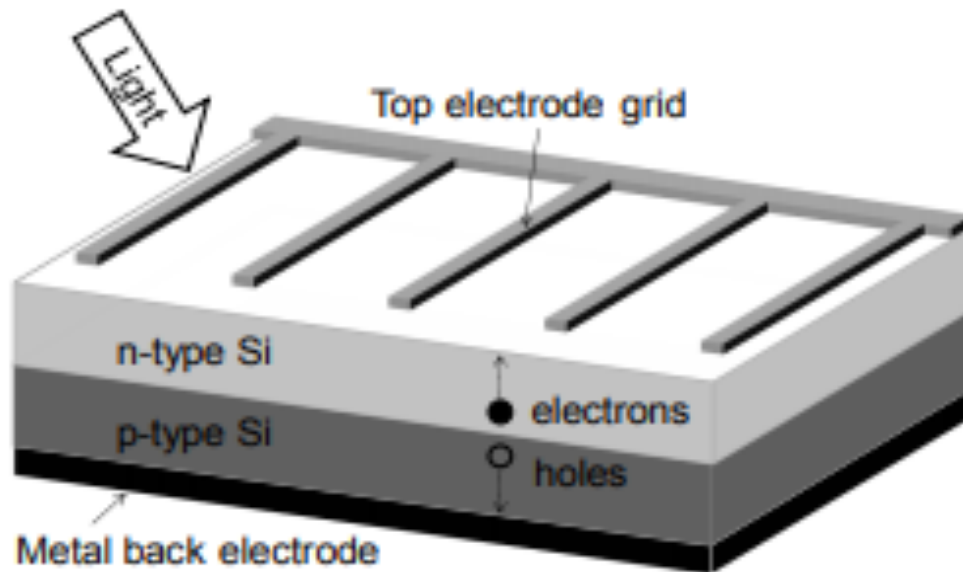

Fig. 1
- Absorbed light creates free electrons and holes, which act as charge carriers and are connected to electrodes (top and bottom) as shown in Fig. 1